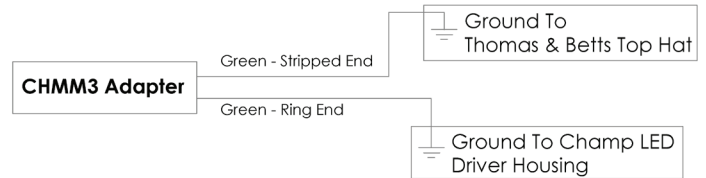

Figure 3
5. Secure one of the CHMM3 adapter ground leads to the Champ Series luminaire ground lead using Listed wire connectors or wire nuts. See Figure 3.
7. Ensure that the Thomas & Betts top hat is connected to earth ground. Connect the remaining free end of the CHMM3 Adapter ground lead to the Thomas & Betts top hat as shown in Figure 3. Ensure that the CHMM3 ground lead is securely fastened to the appropriate ground leads or lugs supplied with the Crouse-Hinds luminaire and Thomas & Betts top hat.